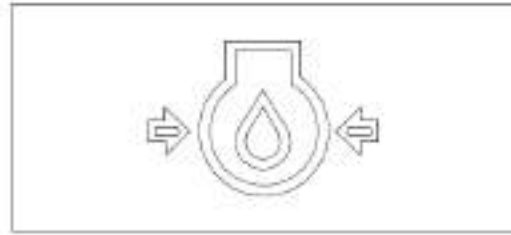

Figure 4-20 Engine oil pressure indicators
d) If the “engine oil pressure too low” warning light is still on as shown in Figure 4-20 after the engine is started, do not operate the levers for working devices and the traveling pedal.
1. If the engine oil pressure indicator light is still on after 4-5 seconds (as shown in Figure 4-20), immediately shut down the engine, check the engine oil level, check for any oil leakage and take necessary measures.
e) If the “engine oil pressure too low” warning light is still on as shown in Figure 4-20 after the engine is started, do not operate the levers for the working device and the traveling pedal.